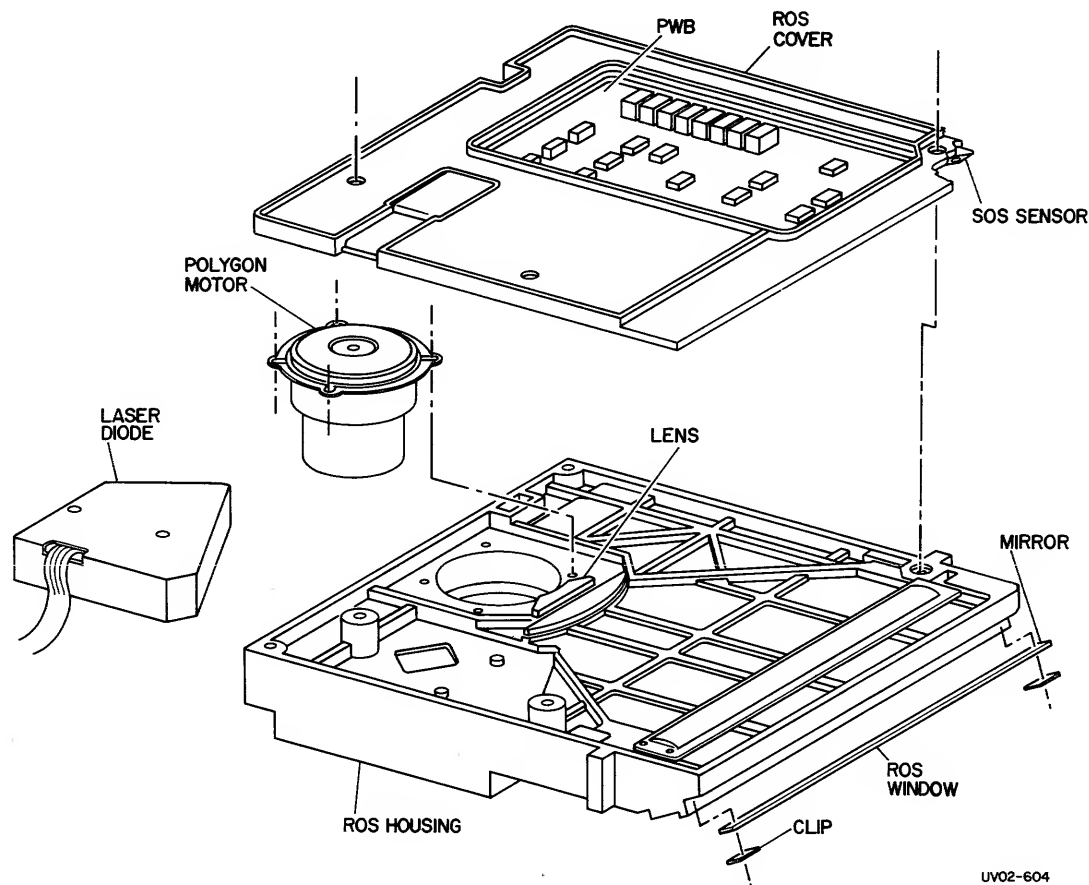

Figure 3-26. ROS Components
See Figure 3-26 for assembly details.
(Figure 3-26).
- o Ensure that the gold mirrored surface is installed toward the Start of Scan (SOS) Detector. The mirror will appear silver on the outside when properly installed. Figure 3-26.
3. REMOVE THE 7MM CAP SCREWS (Figure 3-26).
- o Support the ROS Base Casting as you remove the screws holding the Polygon Motor Assembly (Figure 3-26). The base will drop when you remove the last screw.
- o Do not force the Assembly onto or off of the locating pin (Figure 3-26). Permanent damage to the pin or case may occur.